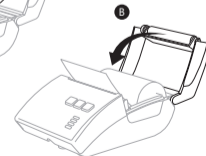

fig. 3
B. Ensure to close the cover tightly and properly. Otherwise, the error red light will be FLASHING after the device is powered on (fig. 3).